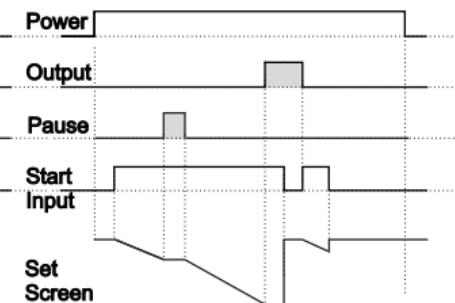

Figure 3.2
3.1.2 If Downcount **dEct**=1 and **outF** is **0FF** the control diagram is shown in Figure 3.2